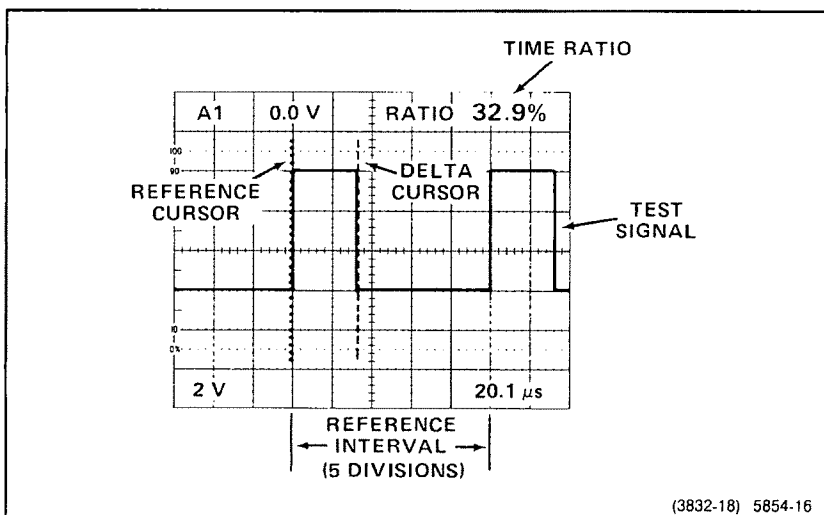

Figure 3-5. Time ratio (duty factor).
2. Activate Δt and align the two vertical cursors with the beginning and end of the high portion of the pulse. Measure the low portion of the pulse if you want to measure the portion of the cycle that is low (see Figure 3-5).